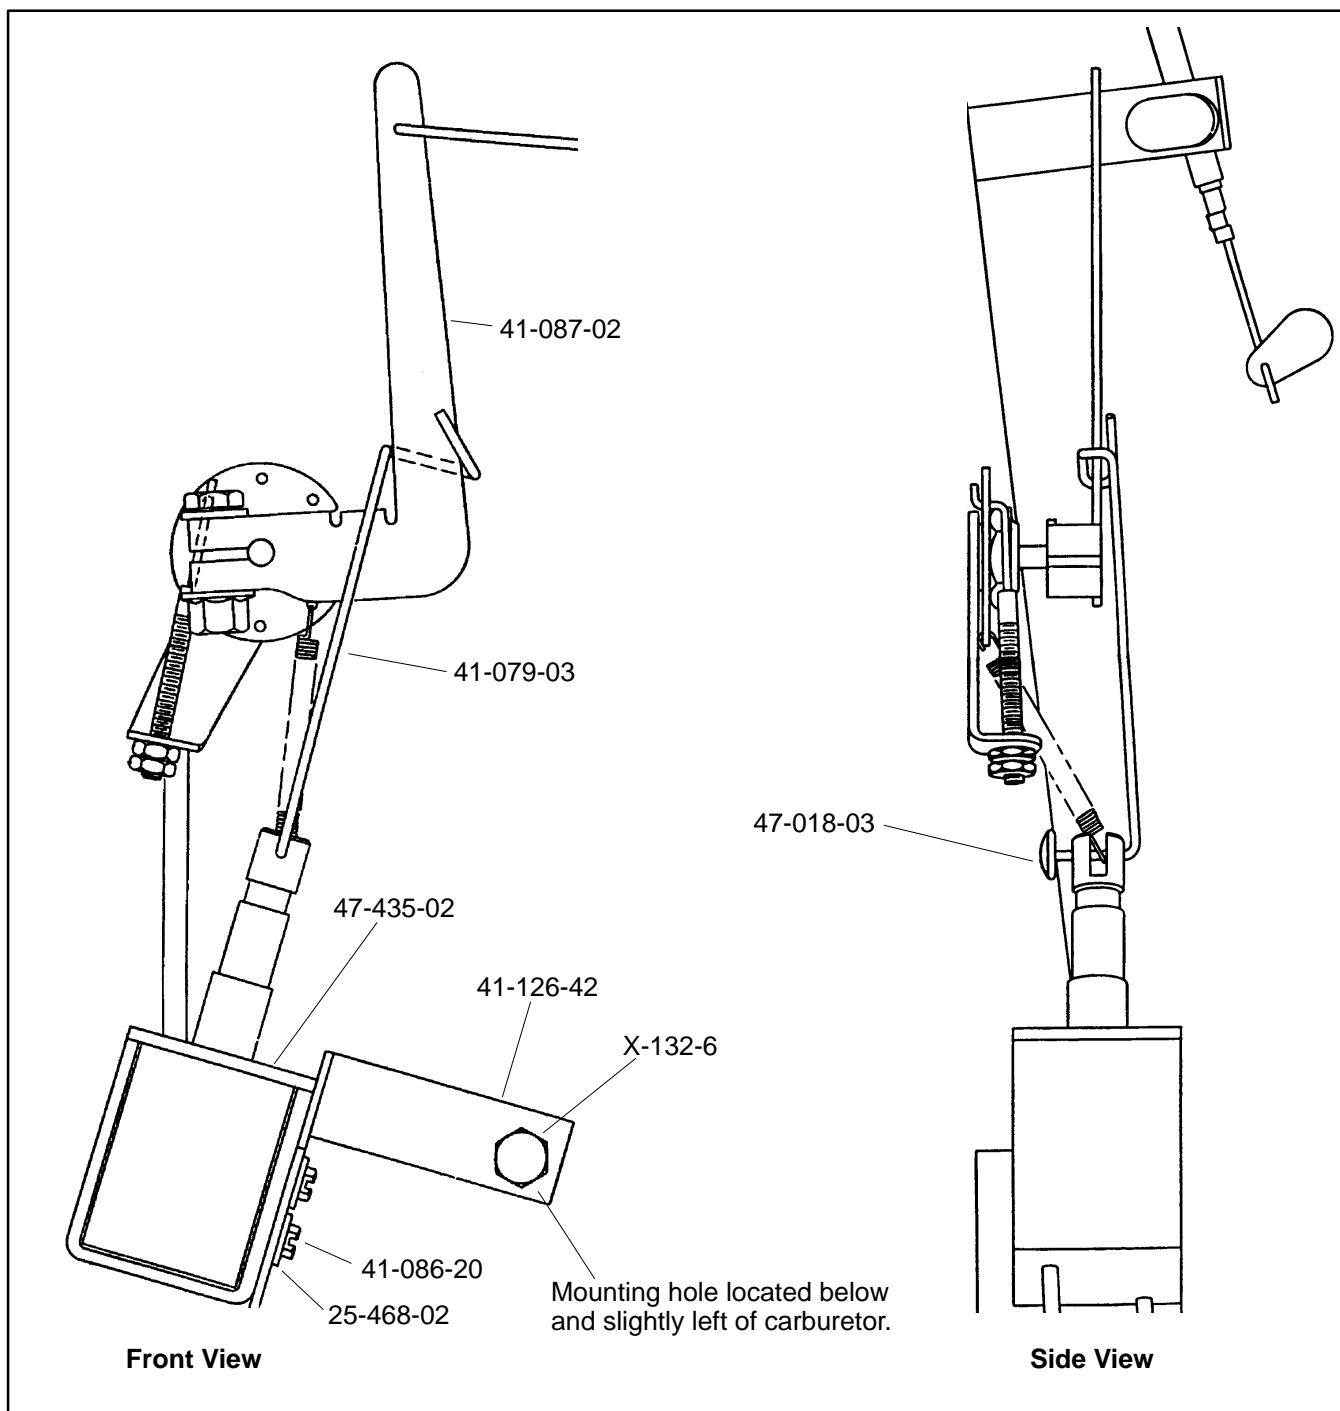
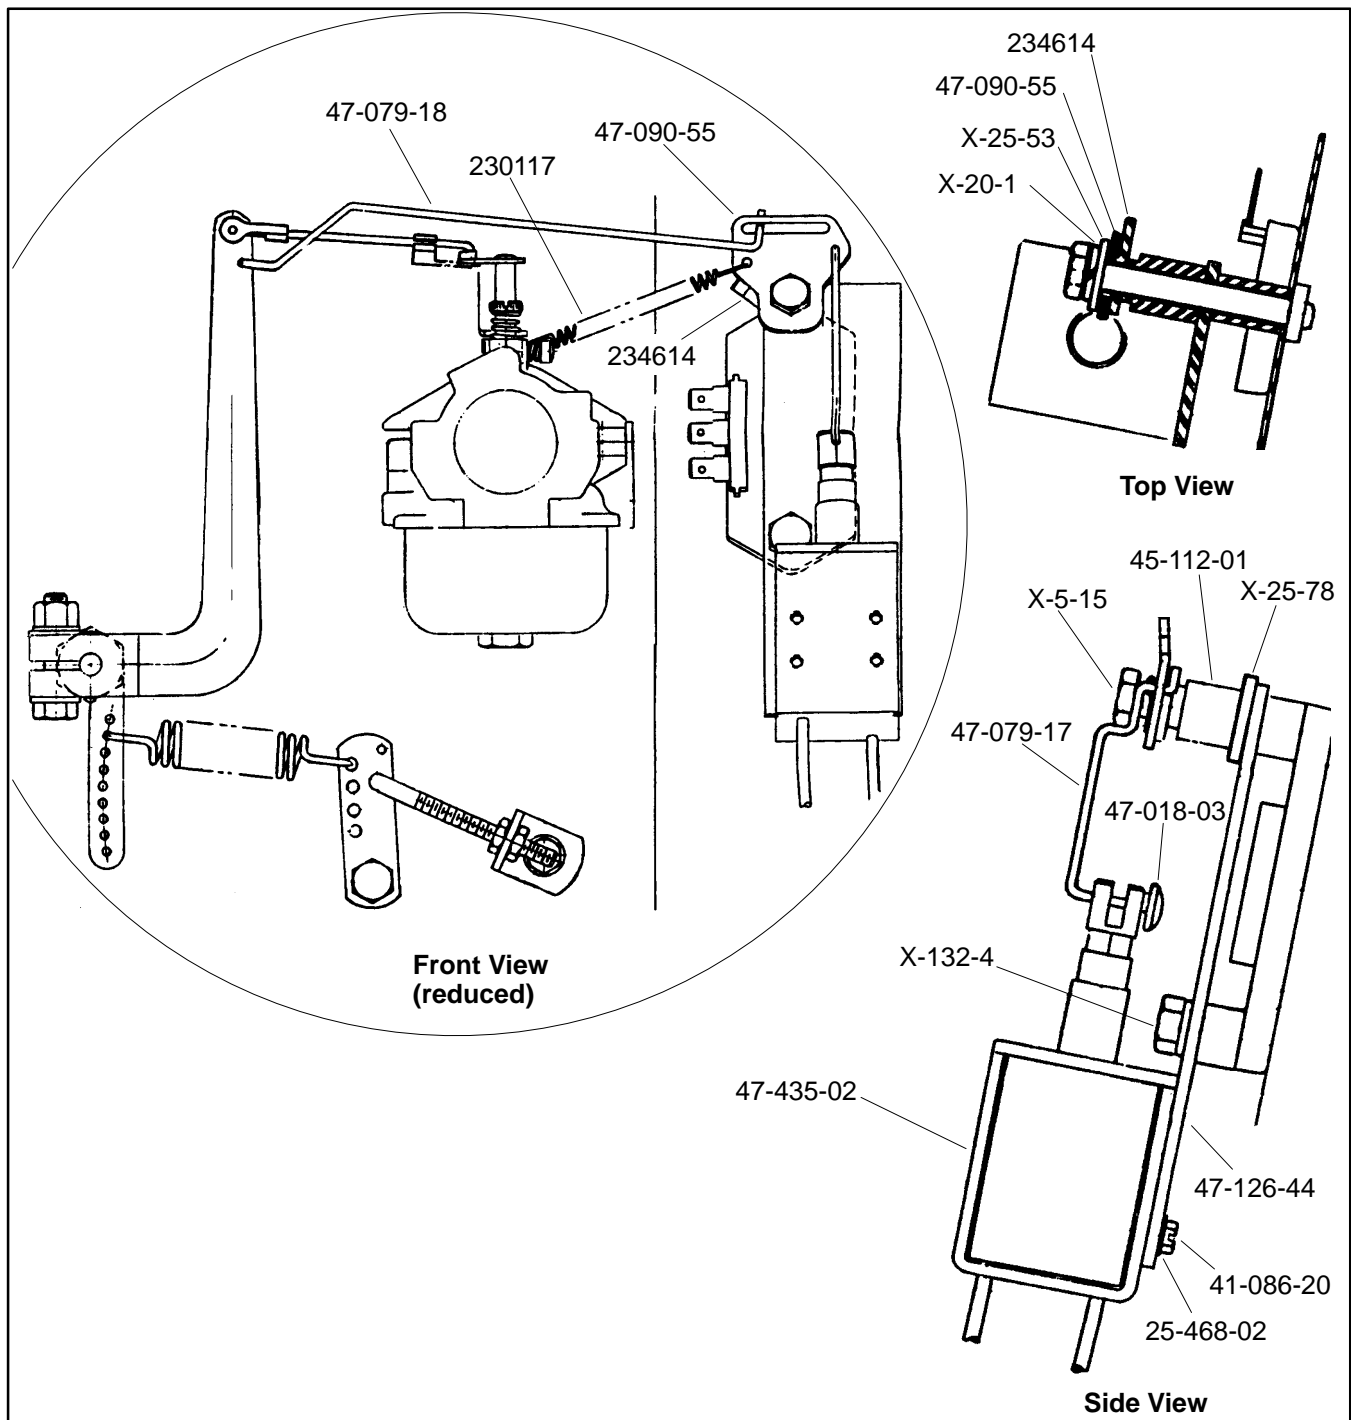

Figure 2. Econothrottle Assembly 228652 (4MM).
Figure 3. Econothrottle Assembly 228653 (6MM/CM).
7. Each Econothrottle Kit contains an Econothrottle Assembly. Install the Econothrottle Assembly for your model: 228652 (4MM), or 228653 (6MM/CM). See Figure 2 or Figure 3, respectively. Also see the Parts List on page 6.